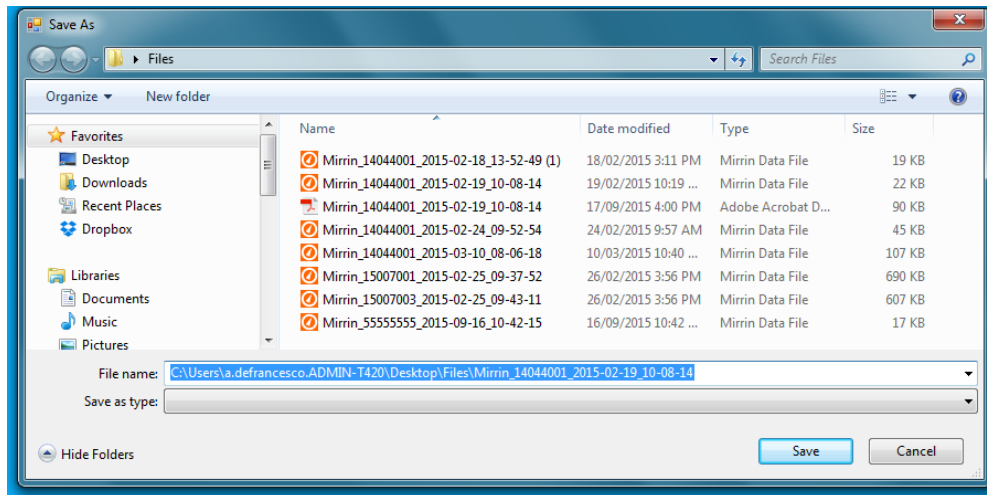

Figure 2.12.5.1
Step 1: Click on the 'Export CSV' button. A browsing window opens as shown in figure 2.12.5.1.